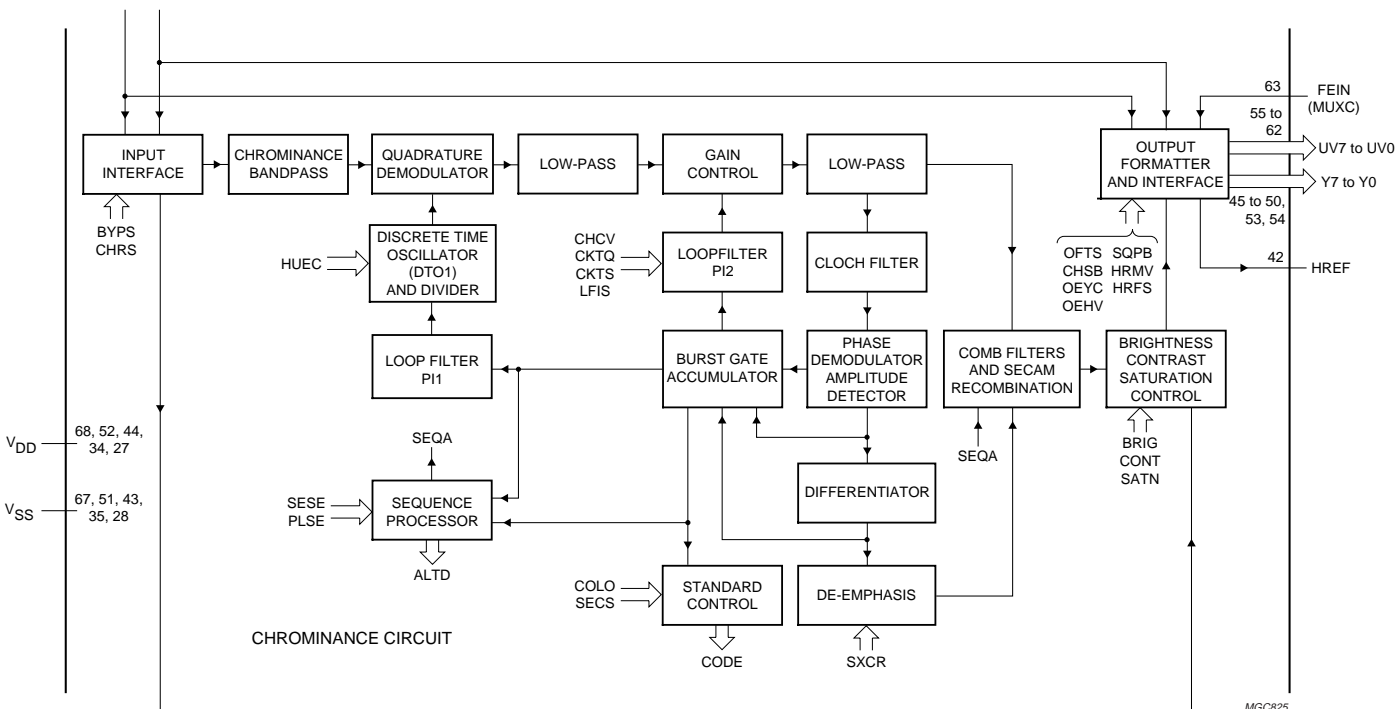

Fig.6 Multi-standard decoder part.
9.3 Chrominance processing (see Fig.6)